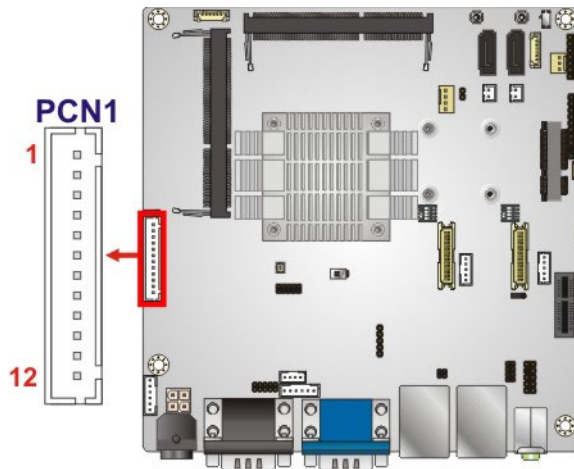

Figure 3-4: 12-pin Battery Connector Location
- CN Location:** See **Figure 3-4**